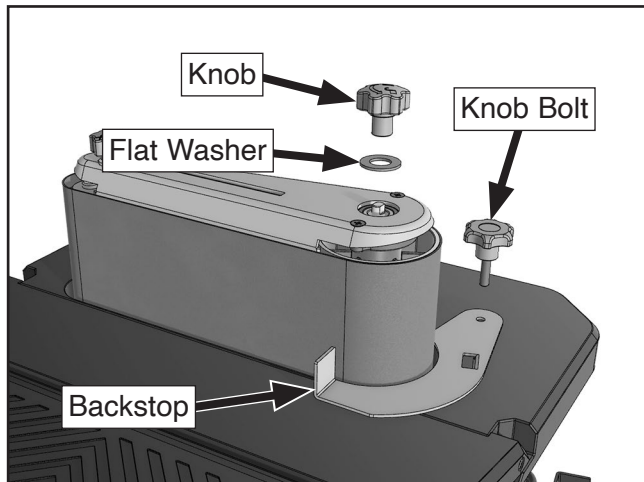

Figure 25. Securing edge sanding attachment and backstop to machine.
5. Secure edge sanding attachment to spindle with 13 x 24 x 1.5mm flat washer and M8-1.25 knob (see **Figure 25**).
6. Install backstop and secure with M6-1 x 10 knob bolt (see **Figure 25**).